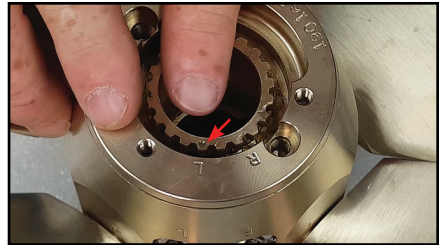

Fig.7
6. Place the zinc bearing ring in its seat again, matching the "L" tooth with the hub reference mark, you have a left hand rotating propeller, on the contrary, with the "R" tooth you have a right rotating propeller as in Fig.7.